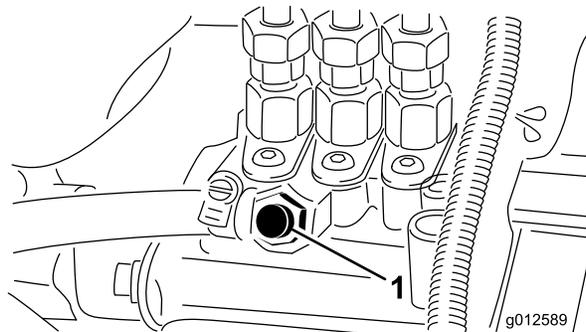

Figure 30
- Open the air bleed screw on the fuel injection pump (Figure 30).